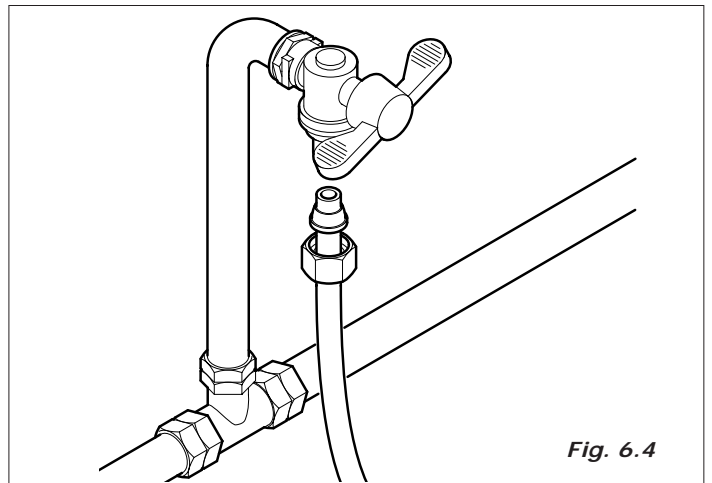

Fig. 6.4
- connect the cock to the beverage machine, using a pipe in nylon material suitable for food products and suitable for the mains pressure. In the event of the use of a flexible pipe it is necessary to fit the reinforcement bush supplied inside (Fig. 6.4).